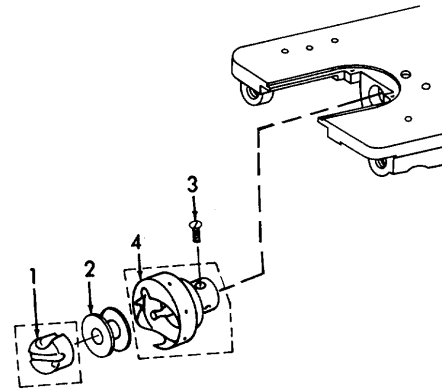

Figure 6-57. Bobbin Case Assembly, Removal.
a. Removal (Refer to Figures 6-57 through 6-59).
- (1) Lay machine on side and support with a block of wood.
- (2) Refer to Figure 6-57. Pull on the clip and remove the bobbin case (1).
- (3) Remove the bobbin (2).
- (4) Loosen the three set- screws (3) and remove the rotary hook assembly (4).